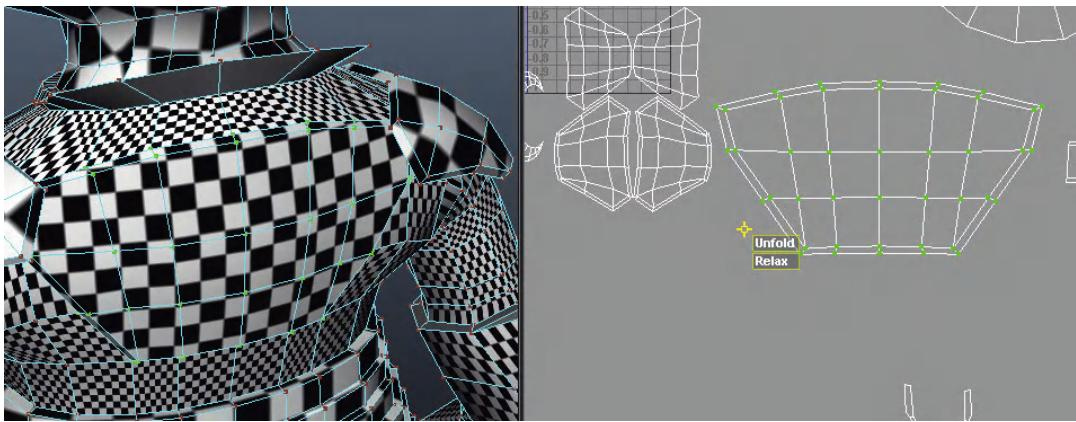

FIG 5.51 Back armor using planar mapping.
Step 27: Repeat for the back armor (Fig. 5.51).